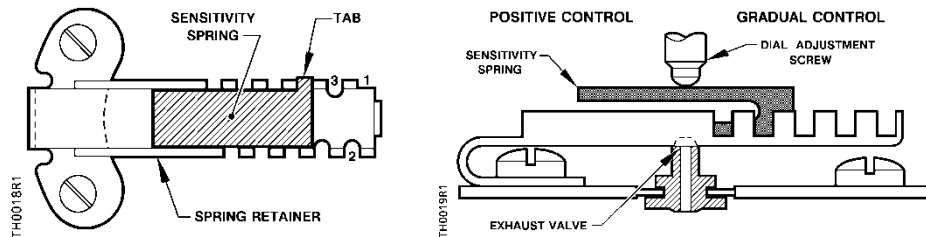

Figure 10. Sensitivity Spring Setting.
3. Lightly press, but do not bend, the spring retainer. See Figure 10.
4. Move the sensitivity spring to the new position. See Figure 10. Table 2 gives the sensitivity spring tab location and the corresponding sensitivity value.